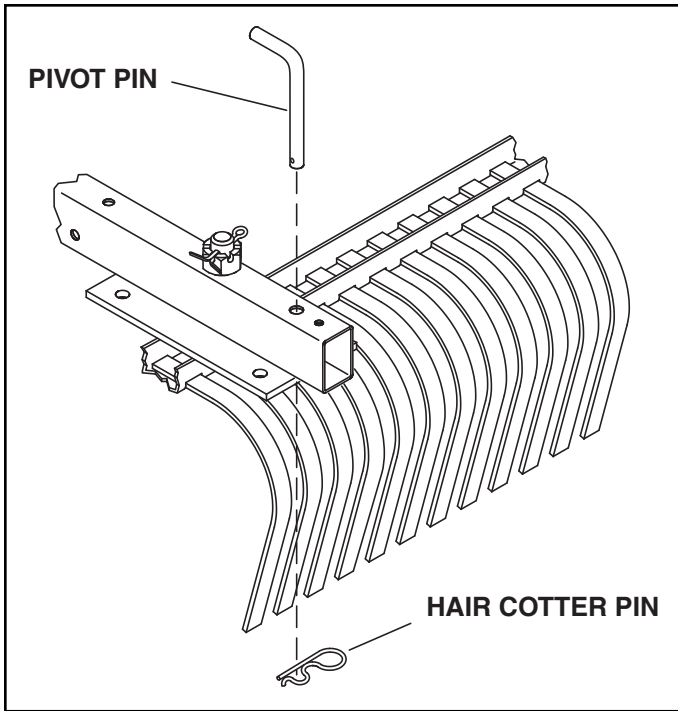

FIGURE 4
- Lock the rake assembly in the straight ahead position by installing the pivot pin through the hole in the rear of the hitch assembly. Secure the pivot pin using the hair cotter pin. See figure 4.